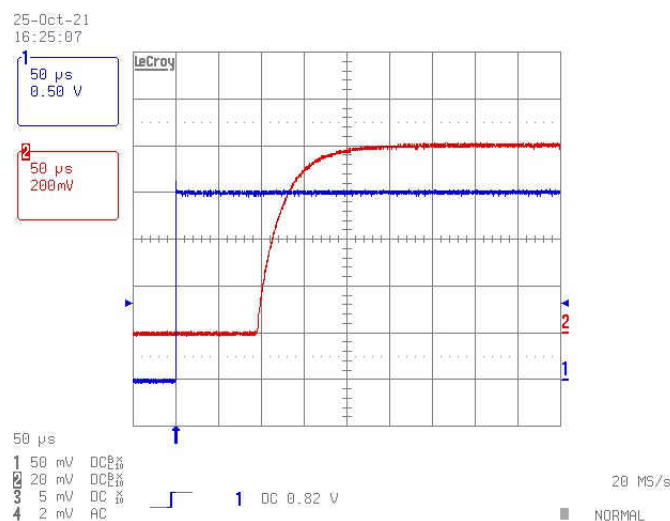

Figure 2-1. TPS7A14EVM-058 Turn On
Alternatively, by connecting an external function generator to TP1 (EN) and a nearby GND post (J11), the user can enable or disable the TPS7A14 LDO after VIN is applied. Figure 2-1 shows the result of the TPS7A14EVM-058 during turn on. The blue trace is the enable voltage, and the red trace is the output voltage.